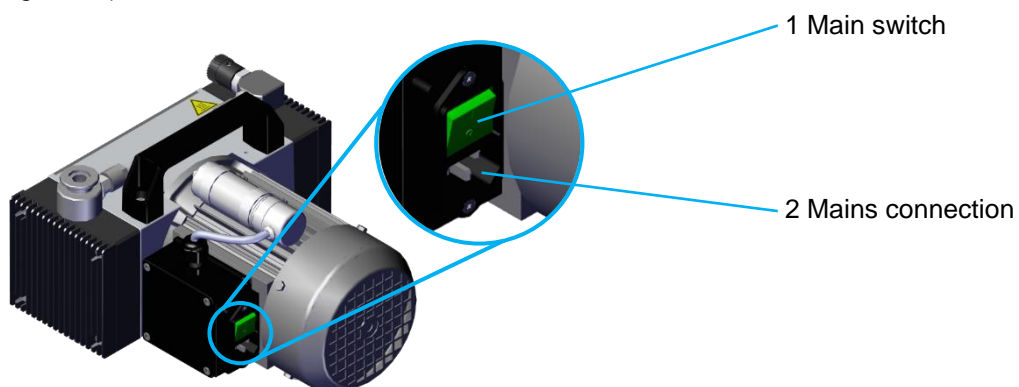

Fig. 5-1. Main switch and mains connection (rear view)
4	Mains connection/ On/Off switch (see Fig. 5-1)
The device is supplied with a standard power cable that is connected at the mains connection (Fig. 5-1/2).
3. Turn on the device at the main switch (*Fig. 5-1/1*).